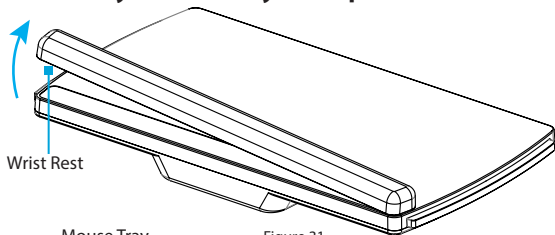

Figure 31
1. Carefully peel the **Plastic Wrist Rest** off the **Keyboard Tray**. (Figure 31)